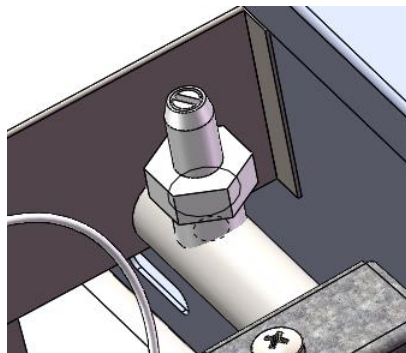

Fig.1
14. Turn over gas LAVA ROCK GRILL , and needle type pressure joint screw arbor (Fig.1), then slip rubber tube of pressure gauge over needle type pressure joint;